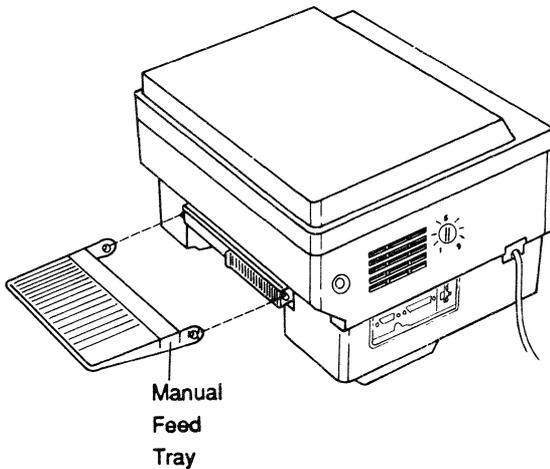

Figure 9: Installing the Manual Feed Tray
2. Locate the manual-feed tray. Move to the rear of the printer and hold the tray so the installation brackets are toward the rear of your printer. The top of the tray has raised lines along the surface. Install the tray by inserting the installation nubs on the outside edges of the printer's rear handle into the holes of the tray's installation brackets. (See Figure 9.)